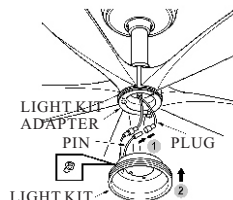
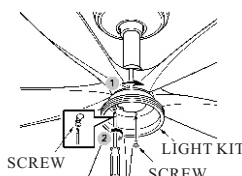

FIG. 16
FIG. 17
4. Connect the plug between the fan wire with light kit wire and lift the light kit plate upto light kit adapter, have the key key slots over the two loosened screws. Turn the light kit plate until it get the narrow end of key slots. (see fig.16)Tighten screws. (see fig.17)